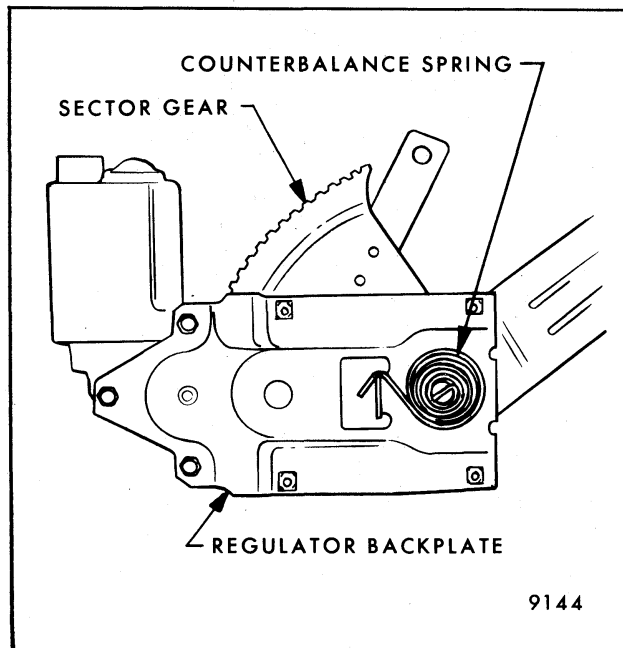

Fig. 5-39-Window Regulator Counterbalance Spring - Typical
2. On "B" and "X" closed style rear doors, inspect regulator for presence of counterbalance spring (Fig. 5-39). If no spring is present, tape window to frame with pieces of cloth-backed body tape to prevent glass from dropping when regulator motor is removed.